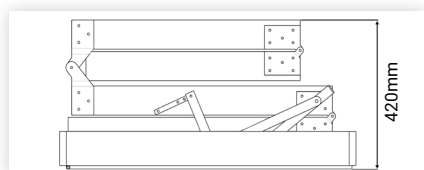

figure 2
- The area for the opening must be clear of wiring, plumbing and structural members such as beams and trusses with a minimum clear height above the ceiling of 420mm for Q24 (figure 2).